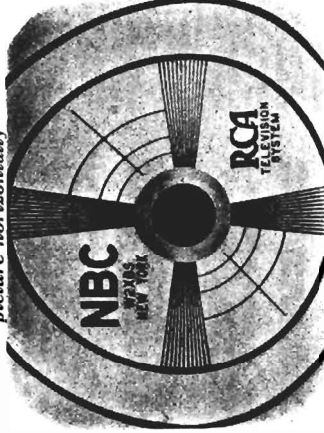

Figure 12—INCORRECT VERTICAL LINEARITY—(Circles flattened at bottom)
3. **Vertical Linearity**—The third control is spaced in conjunction with the Height Control, No. 4, to give the correct vertical proportions to the picture. It may require readjustment due to changing of the Height Control and due to the gradual ageing of the tubes. See Figures 12 and 13. If the picture fills the frame but is crowded near the top, turn Vertical Linearity Control clockwise and Height Control counterclockwise. If crowded towards the bottom, turn these two controls in the reverse directions.